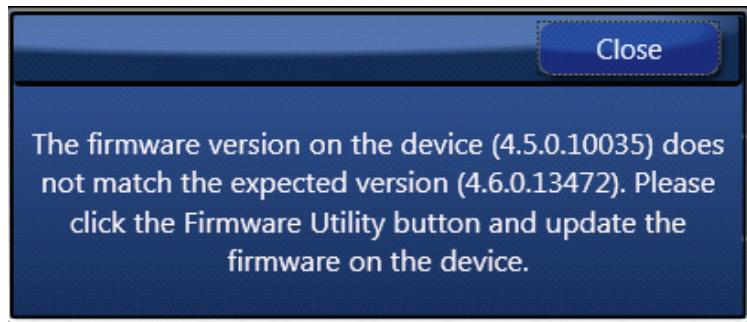

Figure 11. Firmware Version Mismatch Warning Message
7. If ClockMatrix device's firmware, or firmware loaded from EEPROM, has a different version from that in the Personality file, a firmware version mismatch warning message will appear (see Figure 11). Click "Close" button to close the message window and a connection is made.